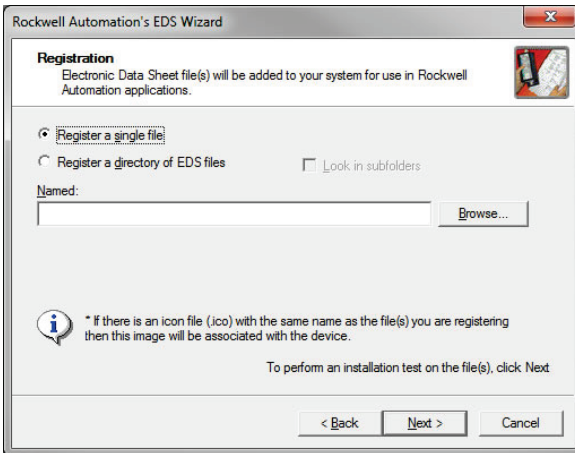

Figure 45: EDS Registration
- 4) The "Registration" dialog will appear. Refer to Figure 45.